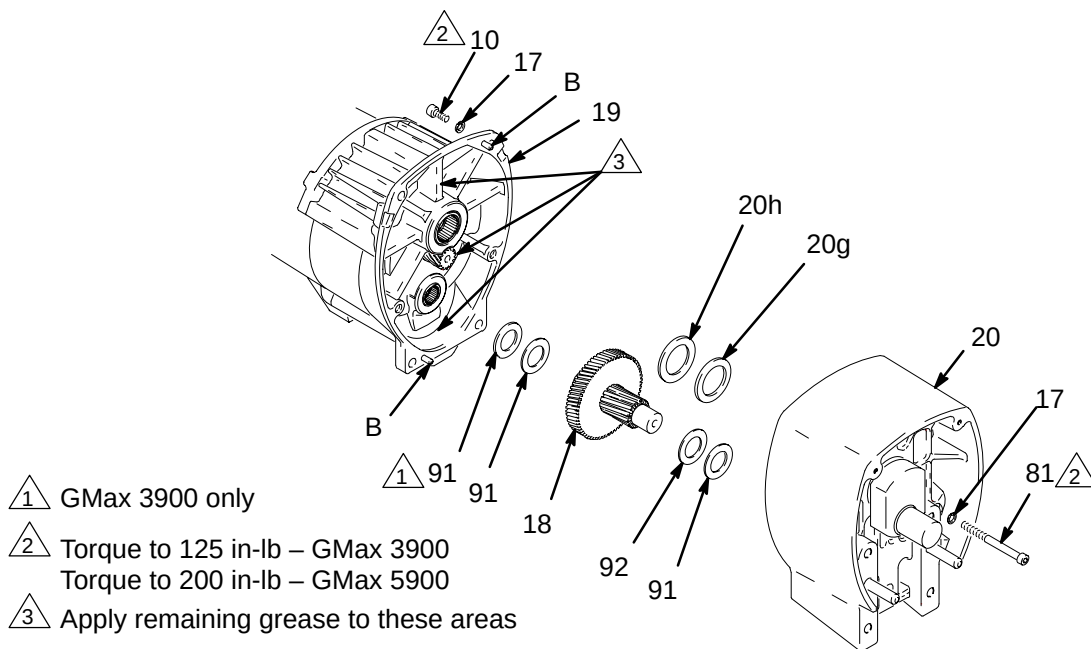

Fig. 4
2. Fig. 4. Remove bearing housing. Do 1. through 8. of **Bearing Housing and Connecting Rod** procedure on page 7.
3. Remove two screws (81) and lockwashers (17).
4. Remove four screws (10) and lockwashers (17) from pinion housing (19).
5. Lightly tap around drive housing (20) to loosen drive housing. Pull drive housing straight off pinion housing. Be prepared to support gear cluster (18), which may also come out.